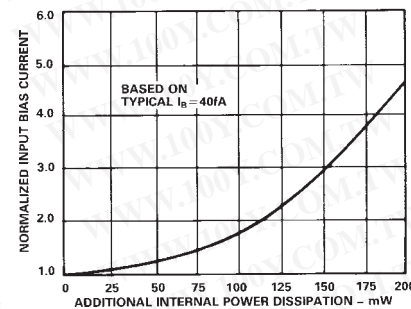

Figure 9. Input Bias Current vs. Additional Power Dissipation
3. Output loading effects, which are normally ignored, can cause a significant increase in chip temperature and therefore bias current. For example, a $2\text{ k}\Omega$ load driven at 10 V at the output will cause at least an additional 25 mW dissipation in the output stage (and some in other stages) over the typical 24 mW, thereby at least doubling the effects of self-heating. The results of this form of additional power dissipation are demonstrated in Figure 9, which shows normalized input bias current versus additional power dissipated. Therefore, although many dc performance parameters are specified driving a $2\text{ k}\Omega$ load, to reduce this additional dissipation, we recommend restricting the load resistance to be at least $10\text{ k}\Omega$.